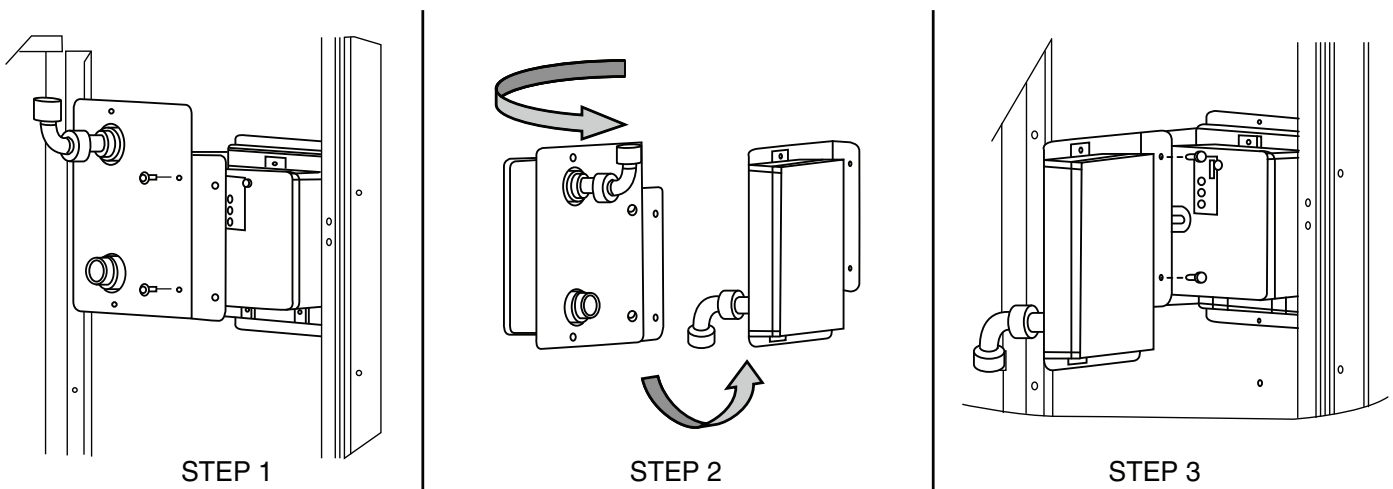

Fig. 49 — Completing Installation of Return Air Smoke Sensor
1. Unscrew the two screws holding the return-air smoke detector assembly. See Fig. 49, Step 1. Save the screws.
2. Turn the assembly 90 degrees and then rotate end to end. Make sure that the elbow fitting is pointing down. See Fig. 49, Step 2.
3. Screw the sensor and detector plate into its operating position using screws from Step 1. See Fig. 49, Step 3.